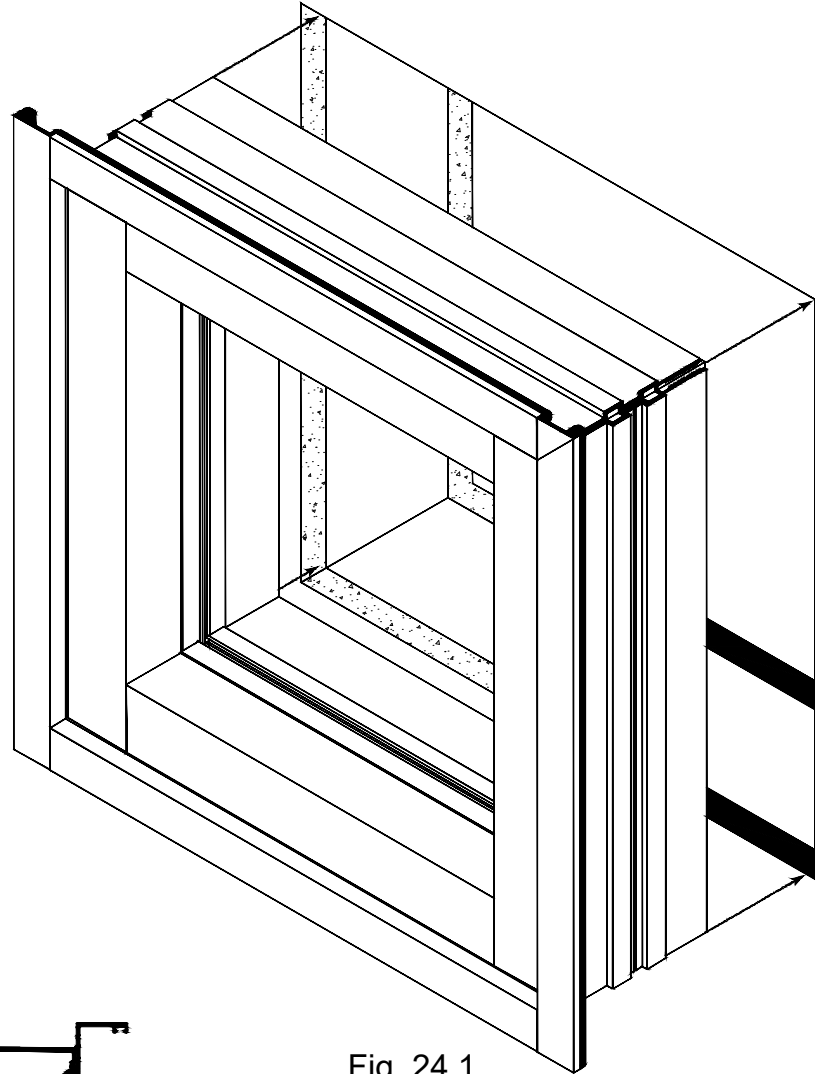
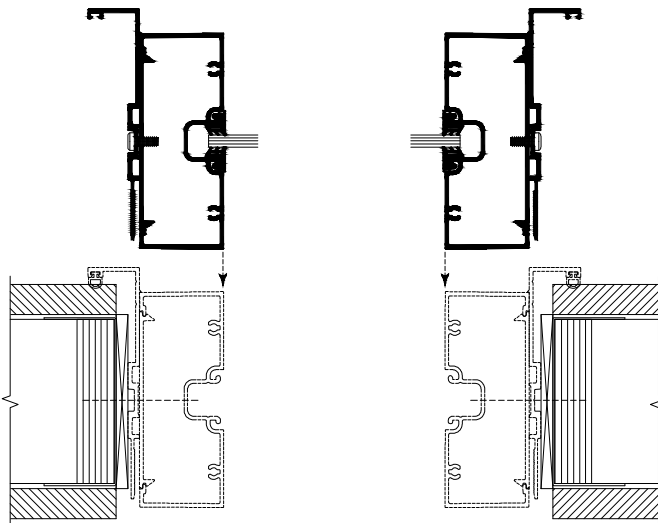

Fig. 24.1
Fig. 24.2
- A. Install assembled elevation into opening, shim and anchor at perimeter. SEE Fig. 24.1 & Fig. 24.2